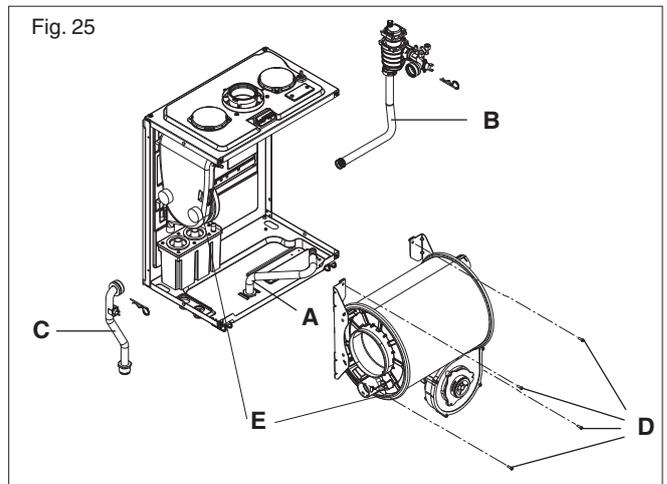

Fig. 25
6.14 MAIN HEAT EXCHANGER (fig. 25 & 26)
Carry out component removal procedure as described in 6.4. Unclip and remove the three air chamber covers (front, LH, RH sides). Disconnect all the wiring connections. **Fig. 25:** Slacken the gas pipe (A) at the air box connection and swing/rotate of the fan assembly. Disconnect the flow (B), return (C) and condense connections on the heat exchanger. Locate and remove the 4-screws (D) that secure the heat exchanger to the combustion chamber. Move the heat exchanger to the right and disconnect it from the flue collector (E). The heat exchanger can now be lifted up and withdrawn from the appliance.